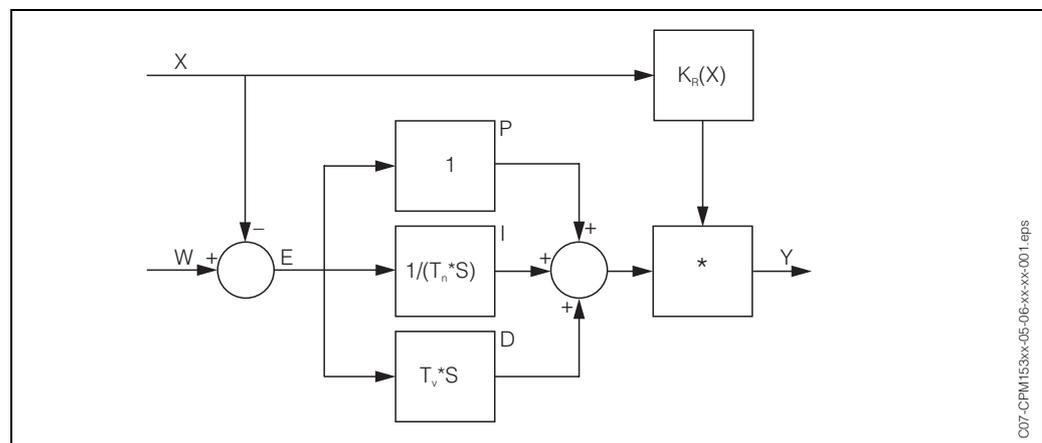

fig. 29: Schematic diagram of the CPM 153 controller with $K_R(X)$ as the total gain
- The factor $K_R(X)$ is the total gain (see fig. 29. This is implemented in the CPM 153).